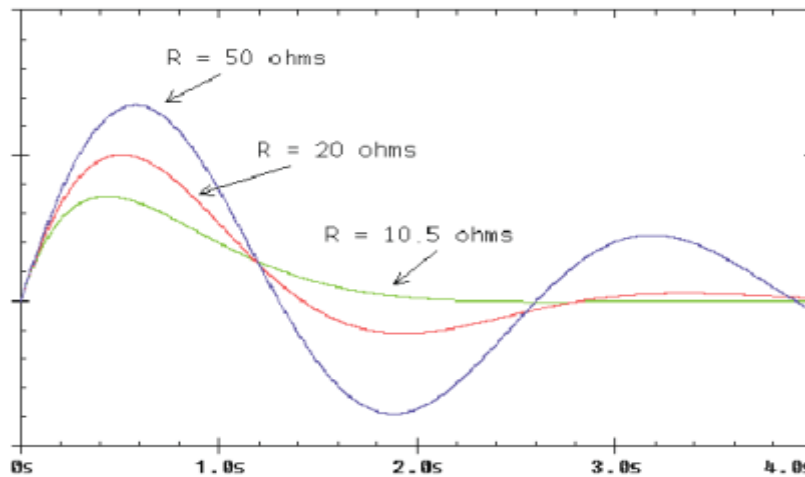

Figure 7.5: Simulated response for three different resistance values (Reference figure).
6. Plot $i_L(t)$ to achieve Overdamped, Critically and Underdamped responses in single figure. Refer Figure 7.5. Also attach the plot.